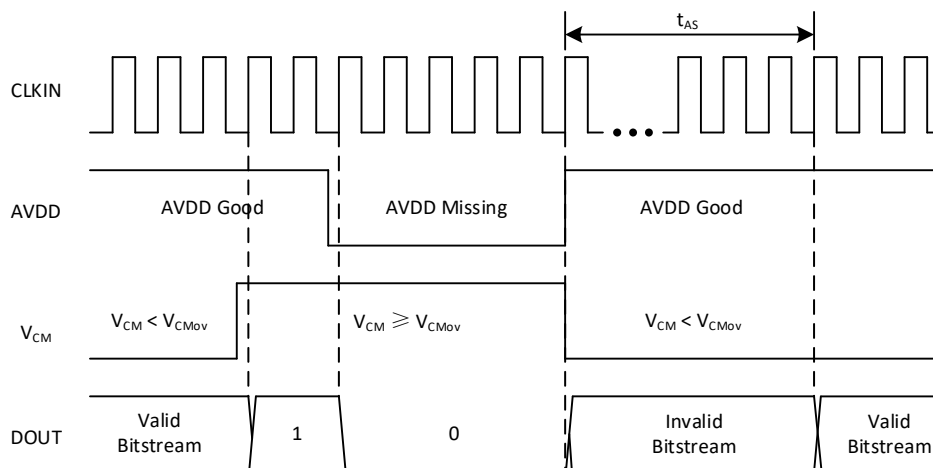
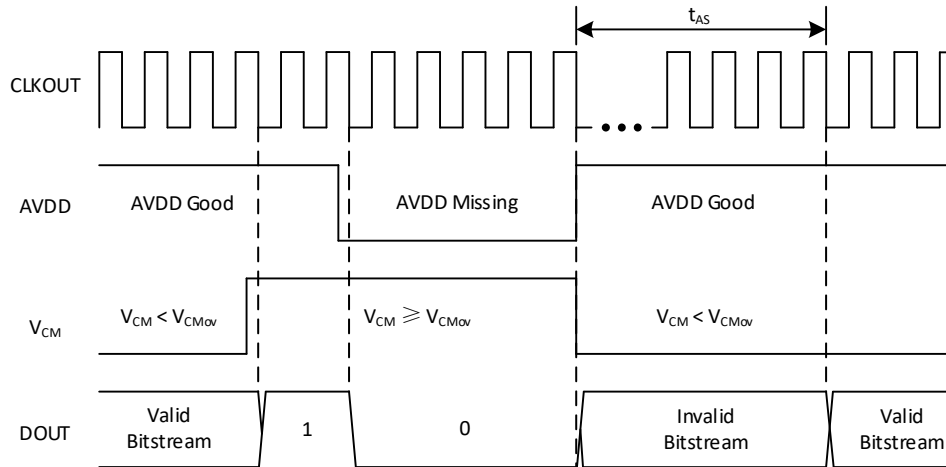

Figure 8.5 Fail-safe Bitstream Output of NSI1306L
Figure 8.6 Fail-safe Bitstream Output of NSI1305L
- When the undervoltage of AVDD is detected ($AVDD < AVDD_{UV}$), DOUT pin output a bitstream of all logic zeros, as shown in Figure 8.5 and Figure 8.6.
- When the overvoltage of common-mode input voltage is detected ($V_{CM} > V_{CMov}$), DOUT pin output a bitstream of all logic ones, as shown in Figure 8.5 and Figure 8.6.